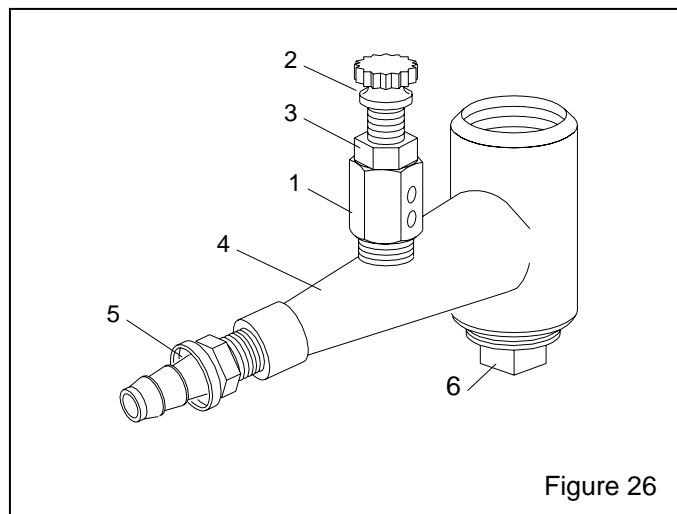

Figure 26
9.6 Metering valve assembly, Figure 26